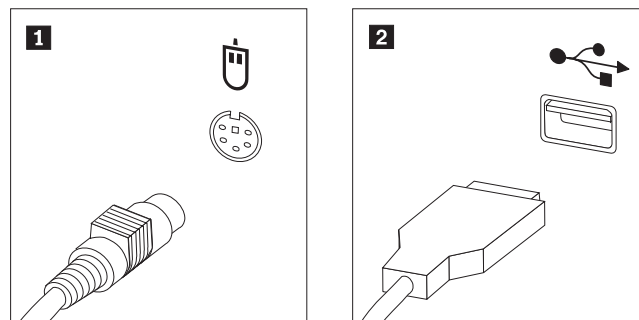

Figure 44. Mouse connectors, standard and USB
3. Locate the mouse connector. See Figure 44.